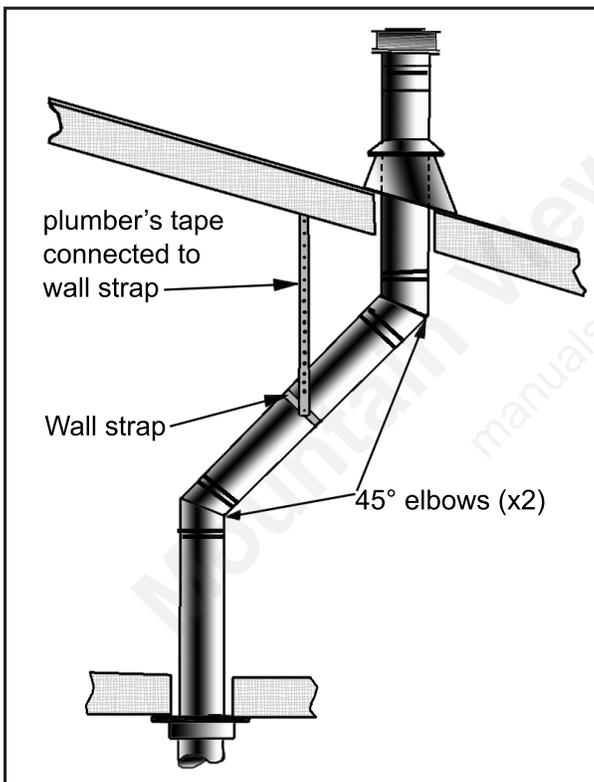

Figure 32: Use of Wall Straps.
- (a) If an offset is necessary in the attic to avoid obstructions, it is important to support the vent pipe every 3 feet (91 cm), to avoid excessive stress on the elbows, and possible separation. Wall straps are available for this purpose (see Figure 32).